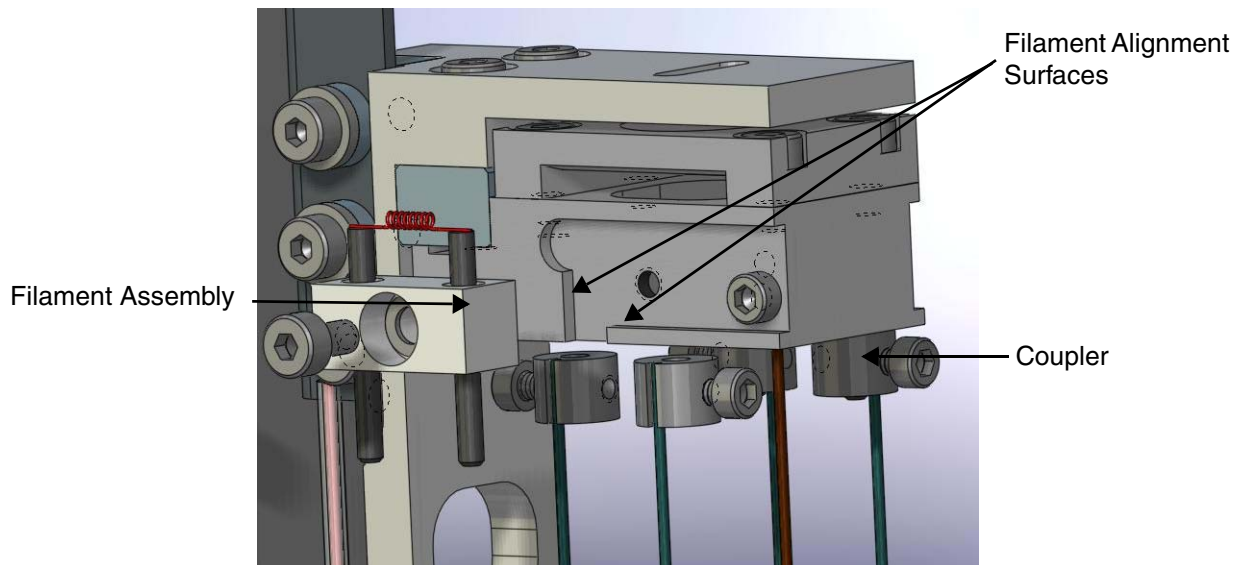

Figure B-83 Coupler Screws
11. On a clean work surface, remove the defective filament(s) from the spectrometer by loosening the two coupler screws. Then loosen the M2 screw and washer and remove the defective filament (Figure B-83).